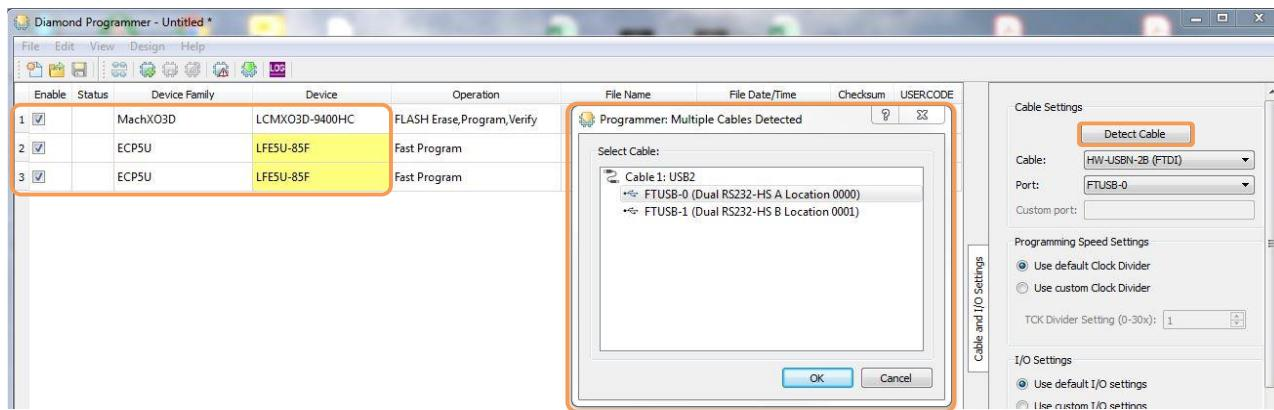

Figure 4.6. Diamond Programmer JTAG Chain
3. Click the **Detect Cable** button to scan the cable (Figure 4.6). The **Programmer: Multiple Cables Detected** dialog box pops up.
5. After scanning the cable, click the button to scan the JTAG chain. The three main devices are located as shown in Figure 4.6.